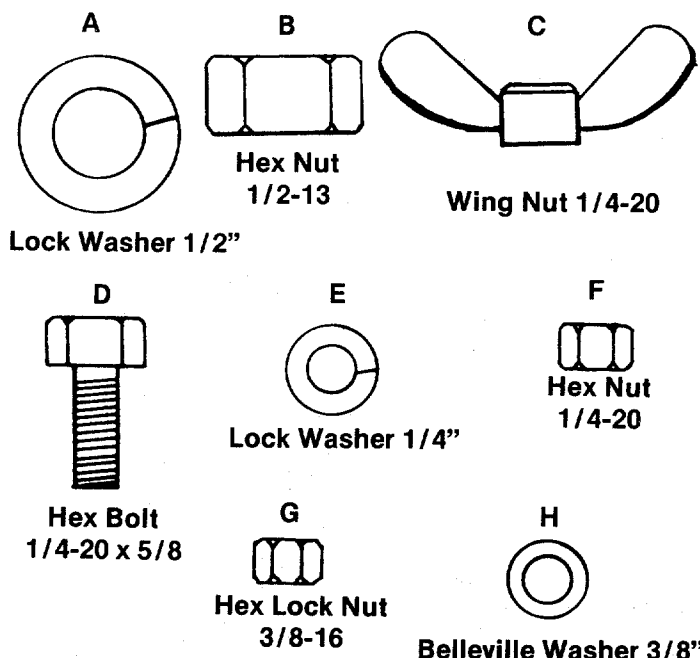

FIGURE 1. HARDWARE SUPPLIED
B. Place seat on spring and secure with lockwasher (A) and hex nut (B). See figures 1 and 3.